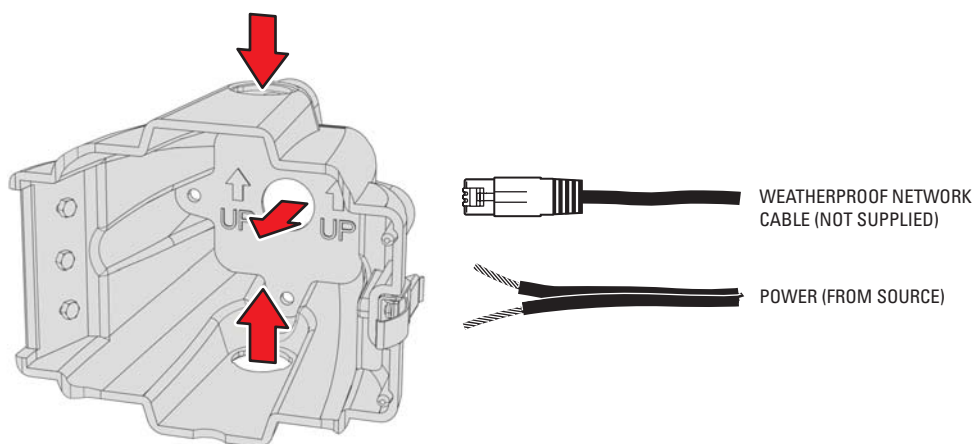

Figure 15. Routing Power and Network Cables
6. Route the power and network cables into the J-box through the top, back, or bottom opening (refer to Figure 15).